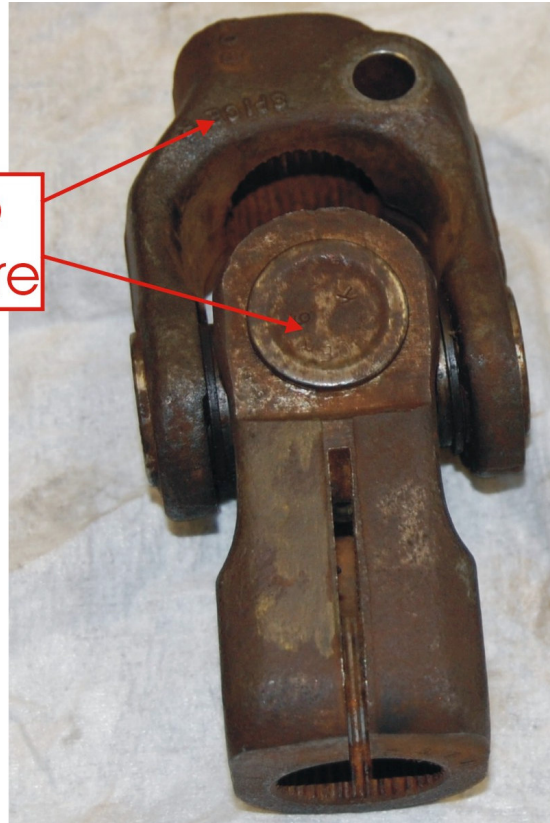

Figure 2:
- a. “Spicer” logo stamped on the U-Joint. See Figure 2.